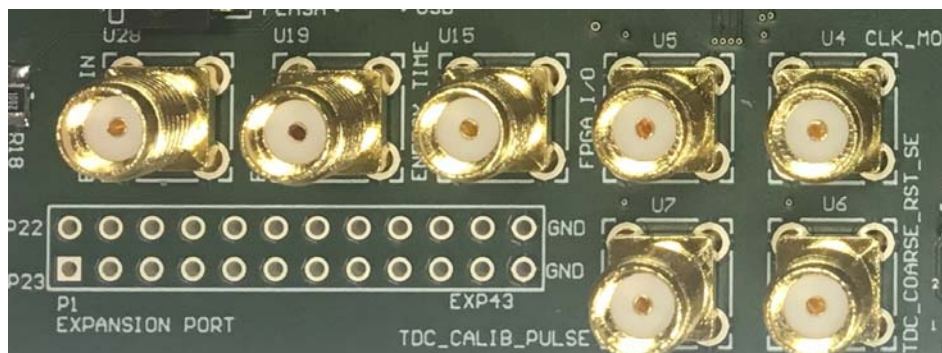

Figure 7: EXT_TRG_IN input and ENERGY_TIME SMA output.
3. **EXT_TRG_IN (SMA U28):** This input permits to inject a pulse to be used as a trigger signal for the energy acquisition. This trigger mode can be configured via a software command. Figure 7 shows the location of this input in the board.
4. **ENERGY_TIME (SMA U15):** this output can show the 16 HR-FlexToT Energy/Time outputs. The output to be shown is controlled via software. Figure 7 shows the location of this input in the board.